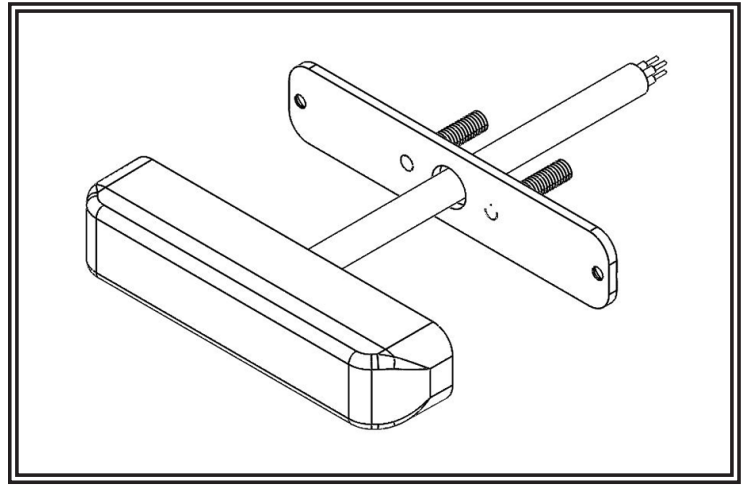

Figure 4
Step 1. Run the cable of the light head through the center hole of the stud mounting bracket. The countersunk holes and studs should be facing away from the light head. Secure the stud mounting bracket to the light head using the two M2.5x10mm flathead screws (not shown). See Figure 4.